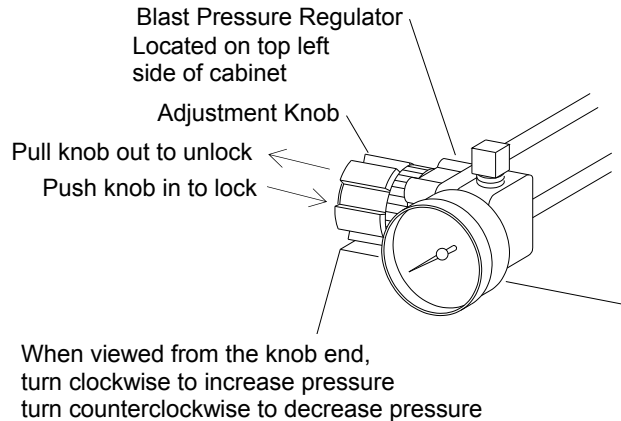

Figure 14
5.1.3 To adjust pressure, unlock the knob by pulling it out as shown in Figure 14, and turn it clockwise to increase pressure or counter-clockwise to decrease pressure. Once operating pressure is set, push in on the knob to lock it and maintain the setting.